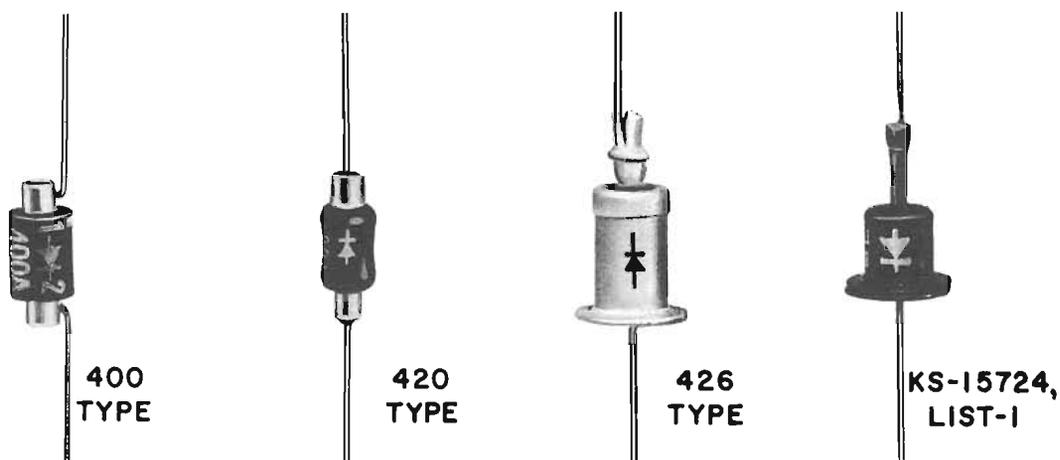

Fig. 1 – Diodes
3.03 Diodes used in station apparatus are described in Table A and shown in Fig. 1 and 2. The table gives typical uses of the diodes, but does not give all the uses.